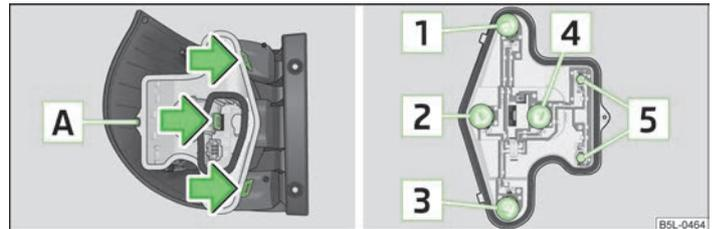

Fig. 172 Remove the middle part of the light/tail light: Bulb arrangement
Overview of the location of the bulbs » Fig. 172.
- › Unscrew the securing screw **A** » Fig. 172 with the aid of the Torx wrench and press the three catches in direction of arrow. Remove the plastic lamp holder.
- › To replace the lamp **1**, **2**, **3** or **4** » Fig. 172 turn the lamp socket anti-clockwise as far as it goes and remove it from the housing or remove the lamp **5** from the socket.